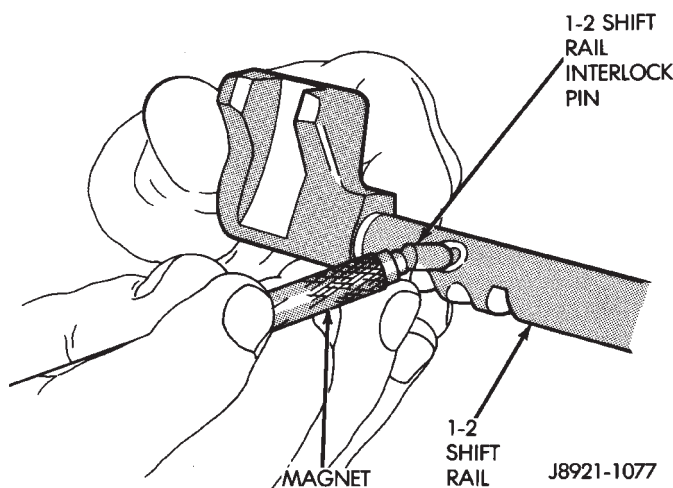

Fig. 47 Removing 1-2 Shift Rail Interlock Pin
(7) Remove 1-2 shift rail interlock pin from shift rail (Fig. 47).